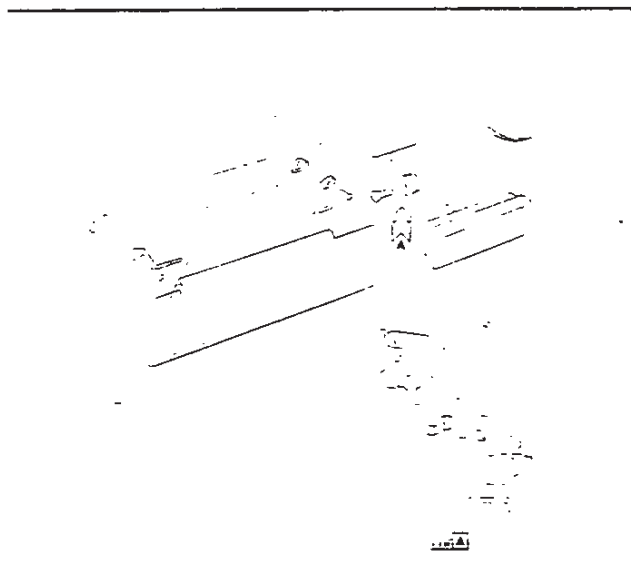

Fig. 12—Sun Visor and Inside Rearview Mirror
Installation of inside mirror is illustrated in Figure 12.
Attachment of sun visor assembly to windshield header is made as shown in Figure 12. Turning of adjusting screw clockwise increases friction.
WINDSHIELD (Figs. 12 to 16)
4. Remove lower corner reveal moldings (L and R) by removing two (2) screws located at end flanges to fender, and carefully prying out from retaining clips.
5. Remove side retainer moldings (L and R) by removing three (3) screws to frame.
6. Remove side reveal molding (L and R) by removing one (1) remaining screw.
8. Secure one end of steel music wire to piece of wood for handle. Insert other end through caulking material at lower corner of windshield; then secure end of wire to another piece of wood (fig. 12).